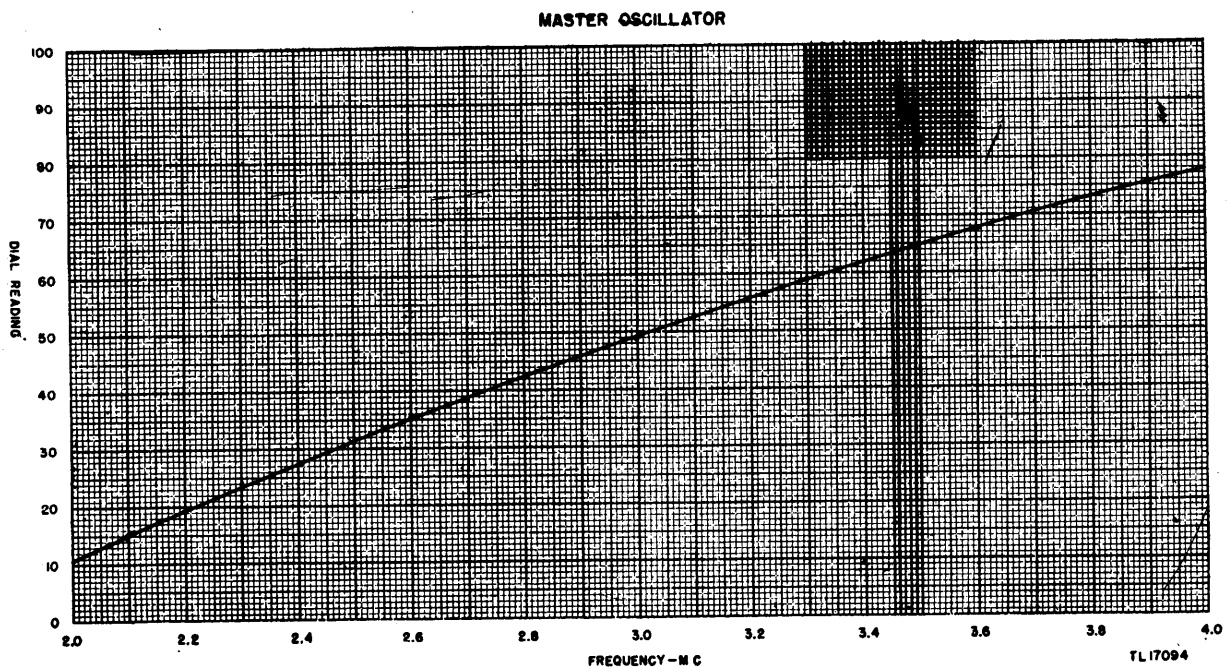

Figure 71. Master oscillator tuning curve.
e. Set tuning controls according to the tuning charts shown in figures 71 through 77.
b. Turn the emergency oscillator tuning capacitor C90 to the proper setting according to the tuning chart. (See fig. 71.)